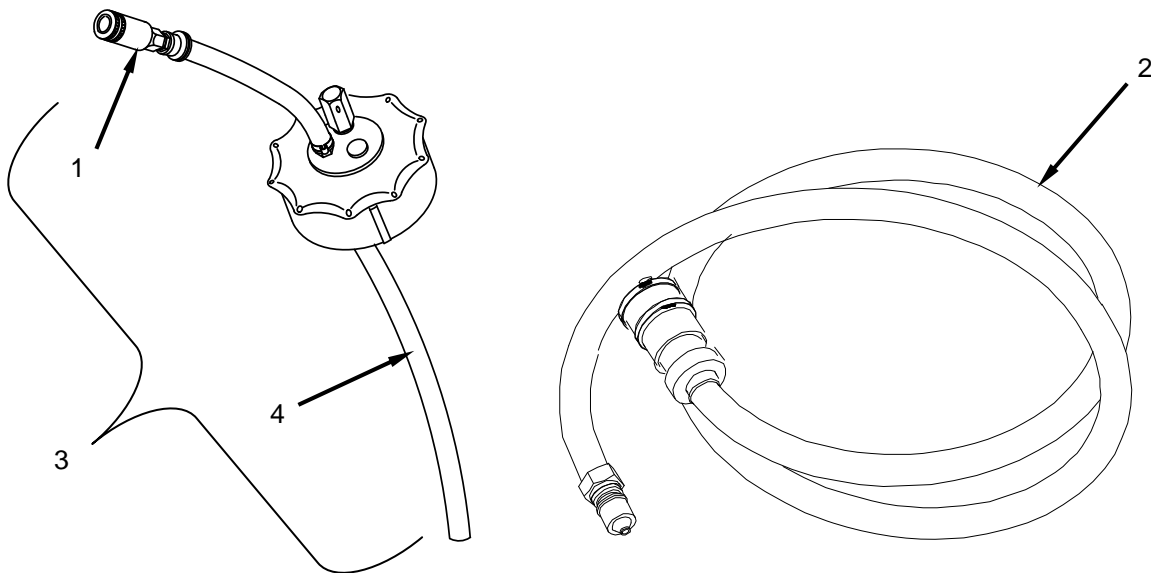

Figure 3. Fuel Can Adapter and Fuel Hose.
1. Disconnect the fuel hose from the fuel can adapter quick disconnect fitting (Figure 3, Item 1).
2. If replacing a damaged fuel hose (Figure 3, Item 2), proceed as follows:
3. If replacing the fuel can adapter (Figure 3, Item 3), proceed as follows:
- b. Ensure the dip tube (Figure 3, Item 4) is seated in the replacement fuel can adapter.
4. Connect the fuel hose to the fuel can adapter quick disconnect fitting (Figure 3, Item 1).